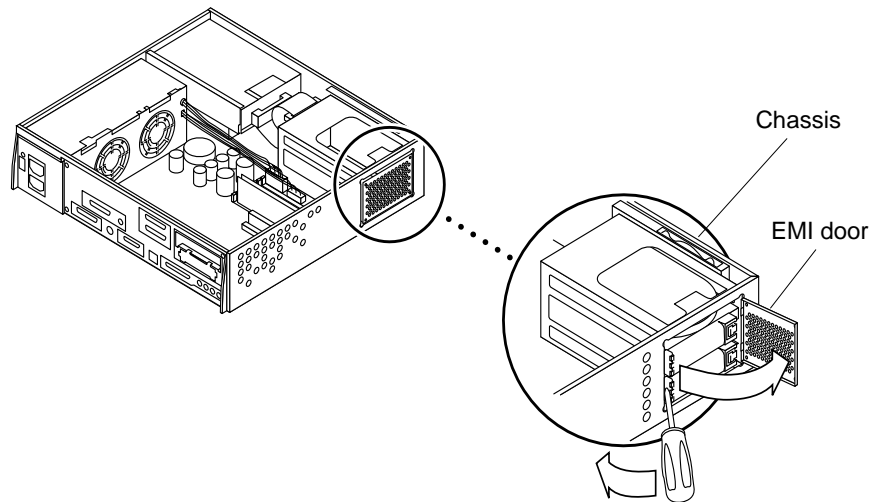

FIGURE 9-1 EMI Door
4. Remove the EMI door from the right side of the chassis (FIGURE 9-1).